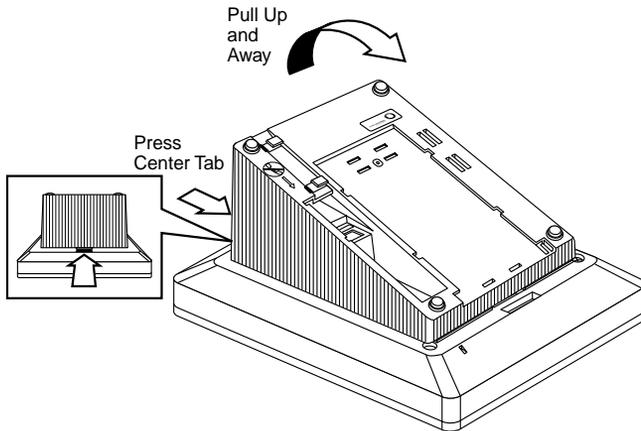
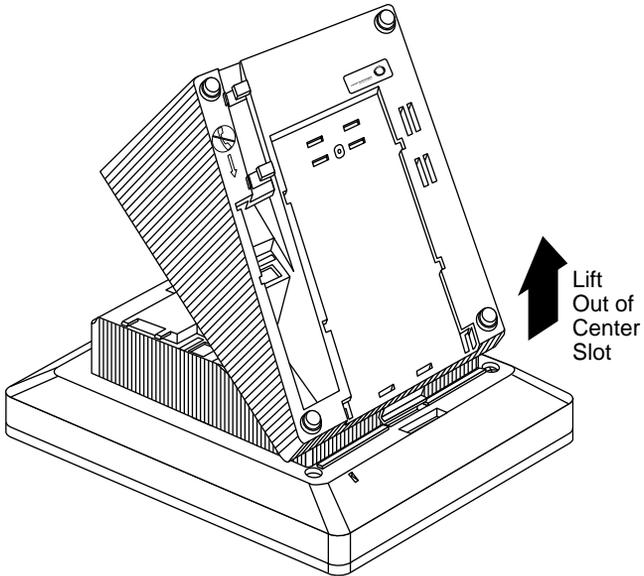

Figure 3-3. Releasing the Deskstand
Figure 3-4. Removing the Deskstand
- ▶ 2. Release and remove the deskstand from the telephone. See Figure 3-3 and Figure 3-4.